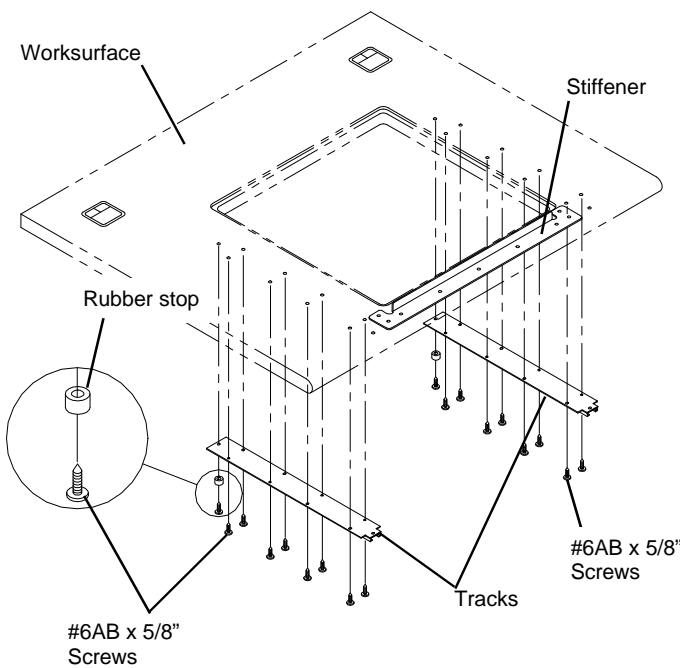

Figure 4
- Attach the **Tracks** to the underside of the Worksurface by aligning the holes in the Tracks with the corresponding holes in the Worksurface (or stiffener on a 30" Linx Worksurface) and securing with the #6AB x 5/8" screws provided. **Note:** One end of each Track is painted black; this end must be to the front of the Worksurface. See **Figure 4**.